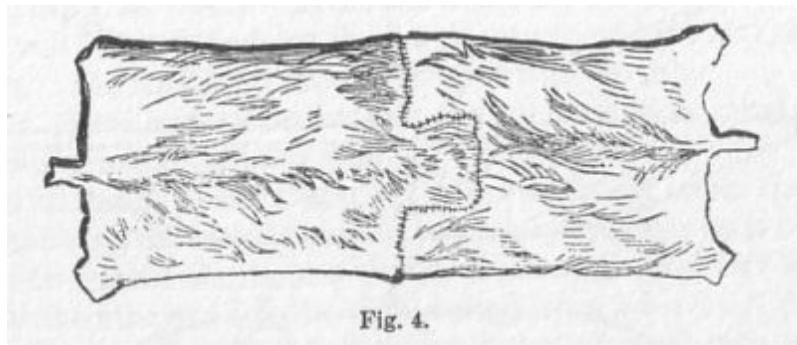

Fig. 4.
6. Kill *two* bulls, skin them, and in skinning be careful to make your cuts in the skin down the rump to the hock of the animal, and down the brisket in front of the fore-leg to the knee, so as to have your skins as square as possible (fig. 4). Cut off the heads, and sew the skins together at the nape of the necks; and, while reeking, cover the wicker-work, turning them over it, the hairy side inwards, and fasten it all round by means of skin-cords. Cut holes with a knife round the edges, to pass the cords through, as you lash up to the top-rails of the boat.